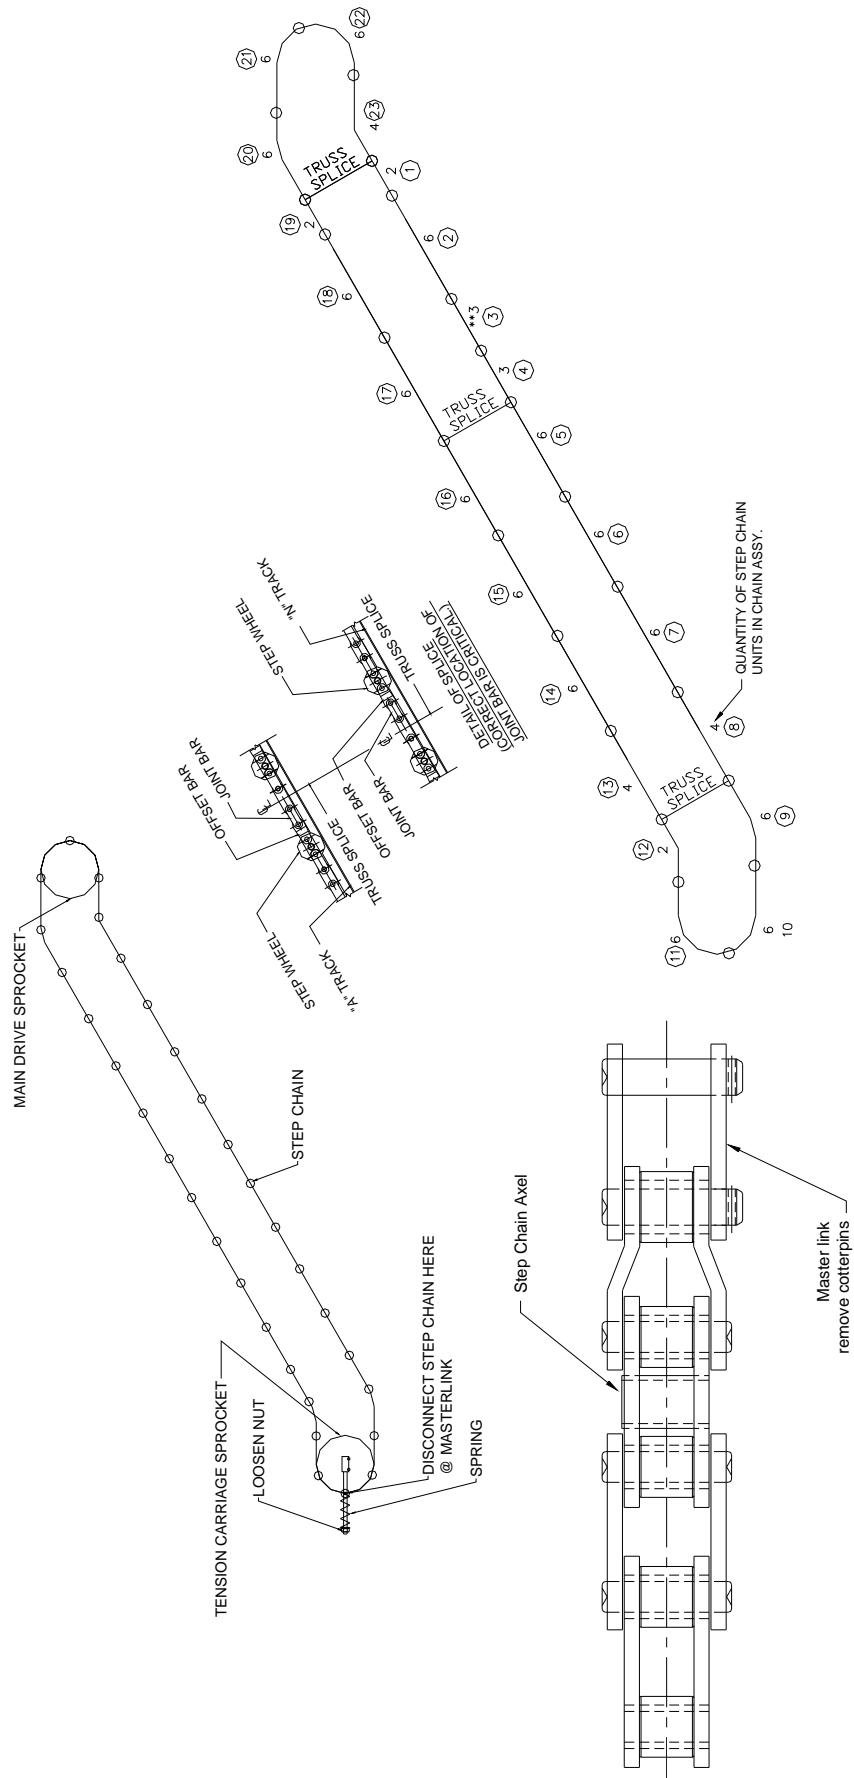

Figure 4-7 Step Chain removal and replacement for San Bruno Station
The following instructions will guide the worker through the removal and replacement of the step chain. See Figure 4-7 for illustration.
3. Position the master link as shown in Figure 4-7.
- The chain is extremely heavy and no attempt should be made to remove all of it at once. (See Figure 4-7, 4-8, for chain numbering sequence.)